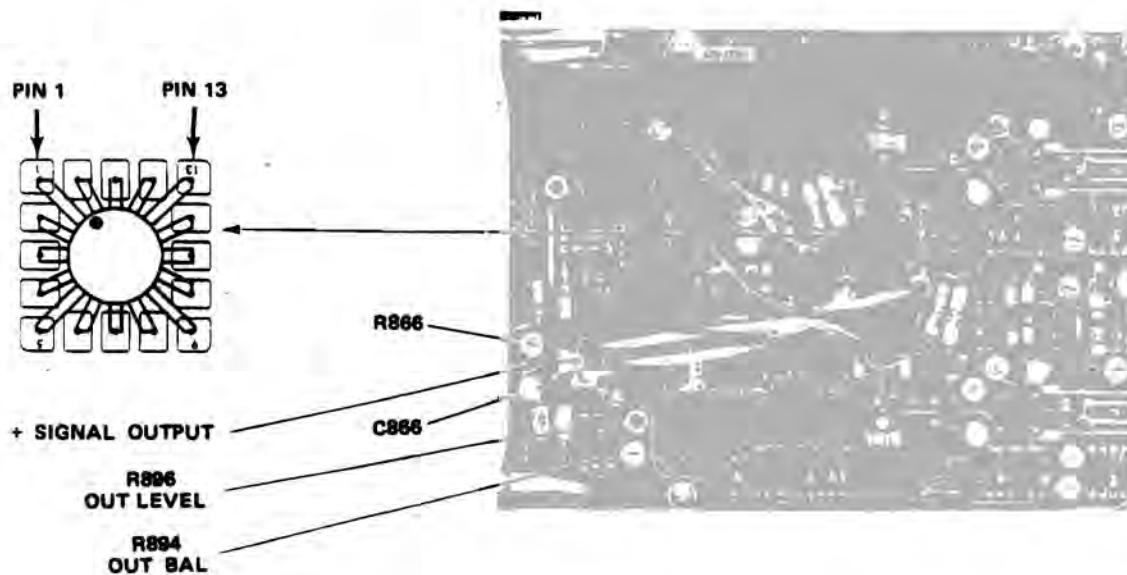

Fig. 5-2. Location of pins 1 and 13, U1550.
b. Set the CH 1 POSITION for zero volts between pins 1 and 13 of U1550 (see Fig. 5-2).
a. ADJUST – The Output Level (R896) for zero volts from the +Signal Output (see Fig. 5-2) to ground.